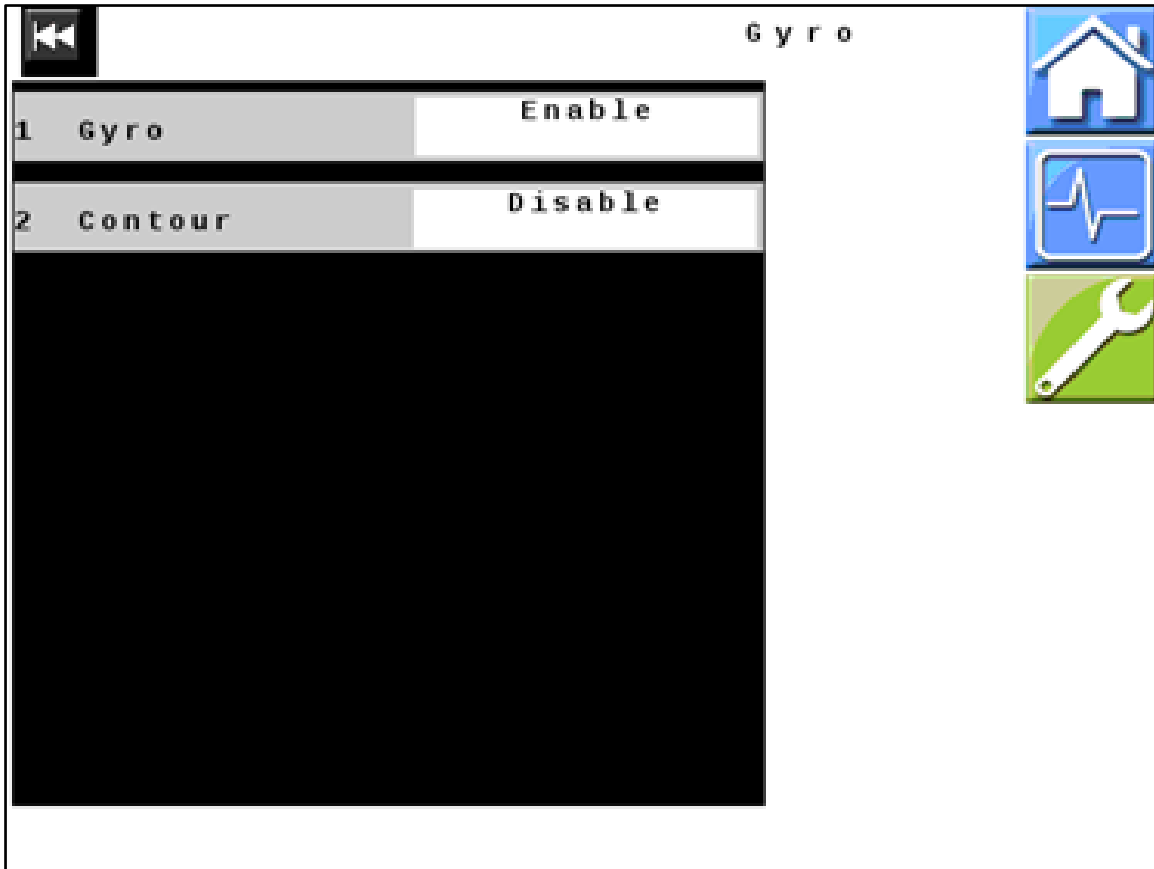

Figure 25 — Gyro
45. Figure 25: Verify that all values displayed on your unit match those shown here. Change values if necessary.